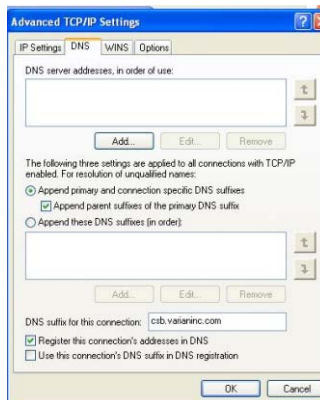

Figure 9 DNS settings
- b Click the **DNS** tab, then check that the settings match those in Figure 9.